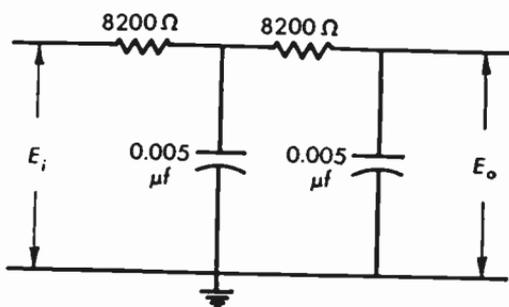

Fig. 11.20 Two-stage integrating circuit.
**11.20** The amplified synchronizing pulses of a television signal are fed in composite form to an integrating circuit (Figure 11.20). In a system employing 525 lines per frame and 60 fields per second, what will be the percentage output of the line-scanning signal, if the fundamental frequency only is considered?
**11.21** Assuming that the integrated field scanning signal across the first capacitor Figure 11.20 is  $e_f$  volts and that the line scanning signal is  $e_l$  volts what is the percentage output of  $e_f$  and  $e_l$  across the second capacitor if the fundamental frequency only is considered?